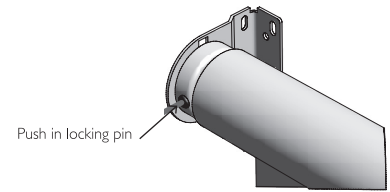

Fig. 4
2. Ensure the locking pin is **IN**. (Fig. 4).